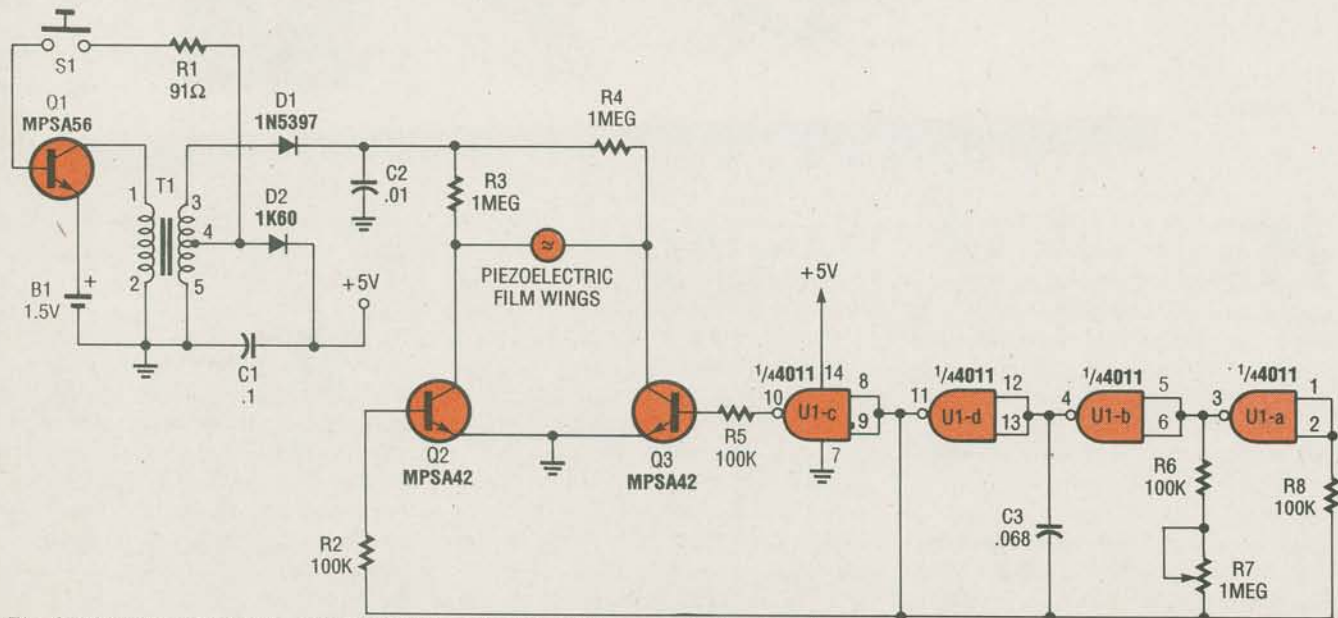

Fig. 2. The schematic for the Electronic Dragonfly. When S1 is pressed, the wings flap up and down.
**A Look At The Circuit.** The schematic for the Electronic Dragonfly is shown in Fig. 2. An AC signal of approximately 10 kHz is created by battery B1, transistor Q1, transformer T1, resistor R1, and push-button S1 in the following manner. When S1 is pressed, Q1 turns on, drawing current from the primary side of T1. A rising pulse from pin 4 of T1's secondary (which is of higher voltage than that at